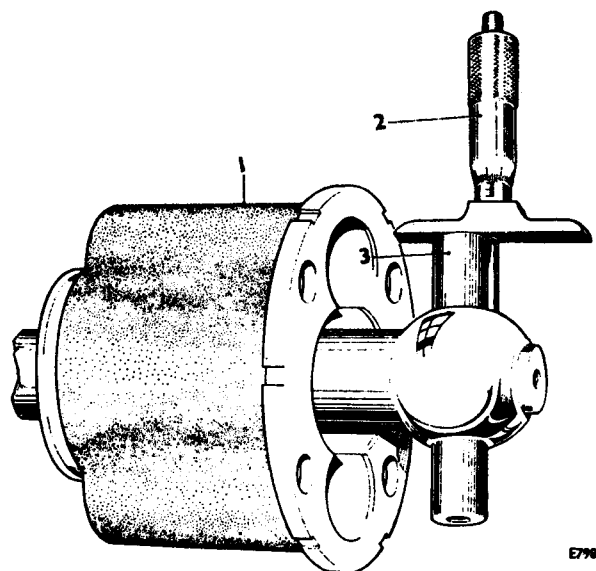

FIG. F6 TRUNNION PIN POSITION
4. The pin must be pressed in squarely and, when the operation is complete, the amount by which the pin protrudes from each side of the shaft must be equal to within 0.006 in. (0.15 mm.) when checked with a depth micrometer (see Fig. F6).